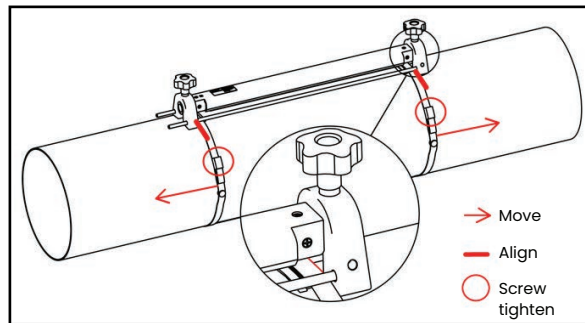

Figure 11: 2 Traverse installation with 1 clamp-on fixture
- c. Hold the fixture against the pipe and move the mounting straps onto the fixture. Then, tighten the screws on the straps, and verify that the straps remain in place on the fixture (see figure 11 below).